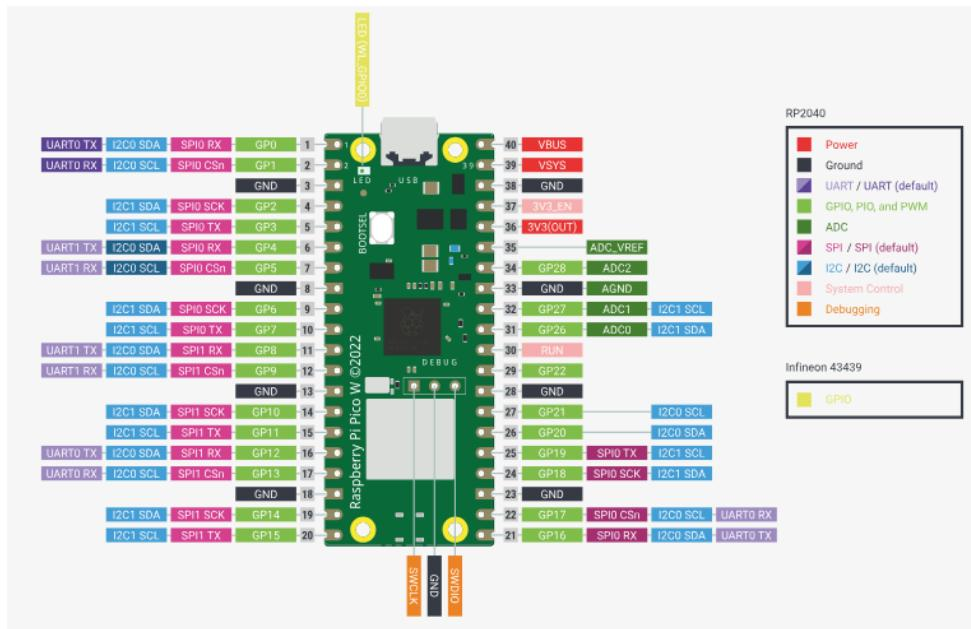

Fig. 11.1: PICOW Pin Diagram
9. See Fig. 11.1 for the picow pin diagram. You may reuse all the Arduino codes for pico by changing only the platformio.ini file.